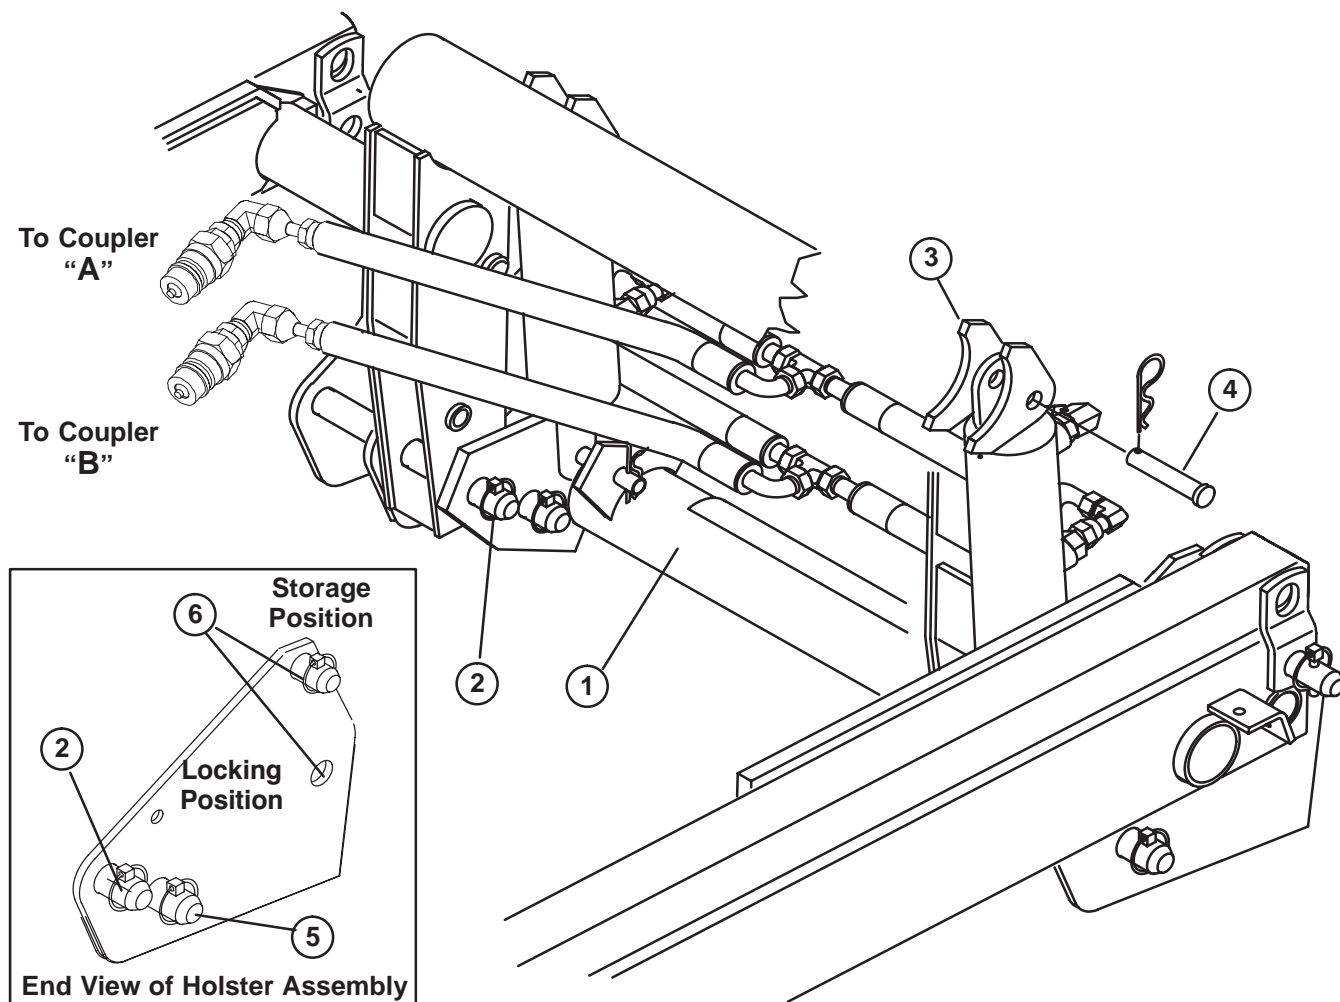

Figure 2
2. Insert hose nipple into coupler until it snaps into position (Fig. 2).
2. Pull hose firmly from coupler (Fig. 2).